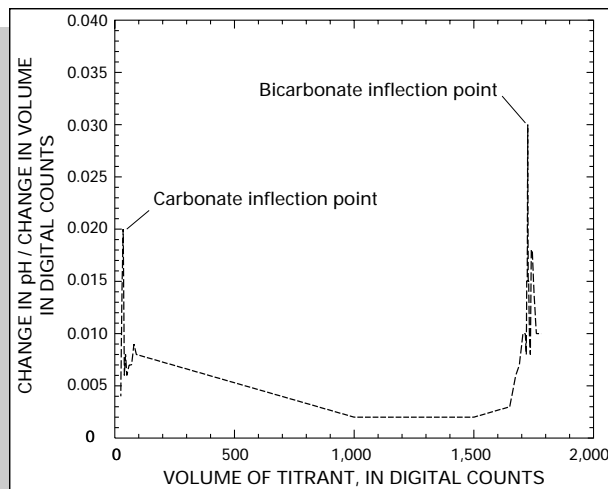

Figure 6.6–3. Example of inflection point titration using a digital titrator.
- ▶ The buret titration system is recommended to achieve the accuracy desired when using the Gran method: substitute the equivalence points determined by the Gran function plot into the equations given in the discussion of the buret system. The digital titration system also is used under some circumstances (illustrated on table 6.6–6 and fig. 6.6–4): refer to table 6.6–3 to calculate concentrations.
2. Plot  $(V_o + V_t) 10^{-\text{pH}}$  against the titrant volume (fig. 6.6–4 and table 6.6–6) using the  $F_1$  function for the bicarbonate equivalence point,
[Data shown in columns 1, 2, 6, and 7 are results of an incremental titration using a digital titrator—remaining columns show calculations used for the Gran function plot (fig. 6.6–4); V, volume of sample; v, volume of titrant; mL, milliliters; cts, digital counts; e-, base 10 logarithm to the negative exponent]